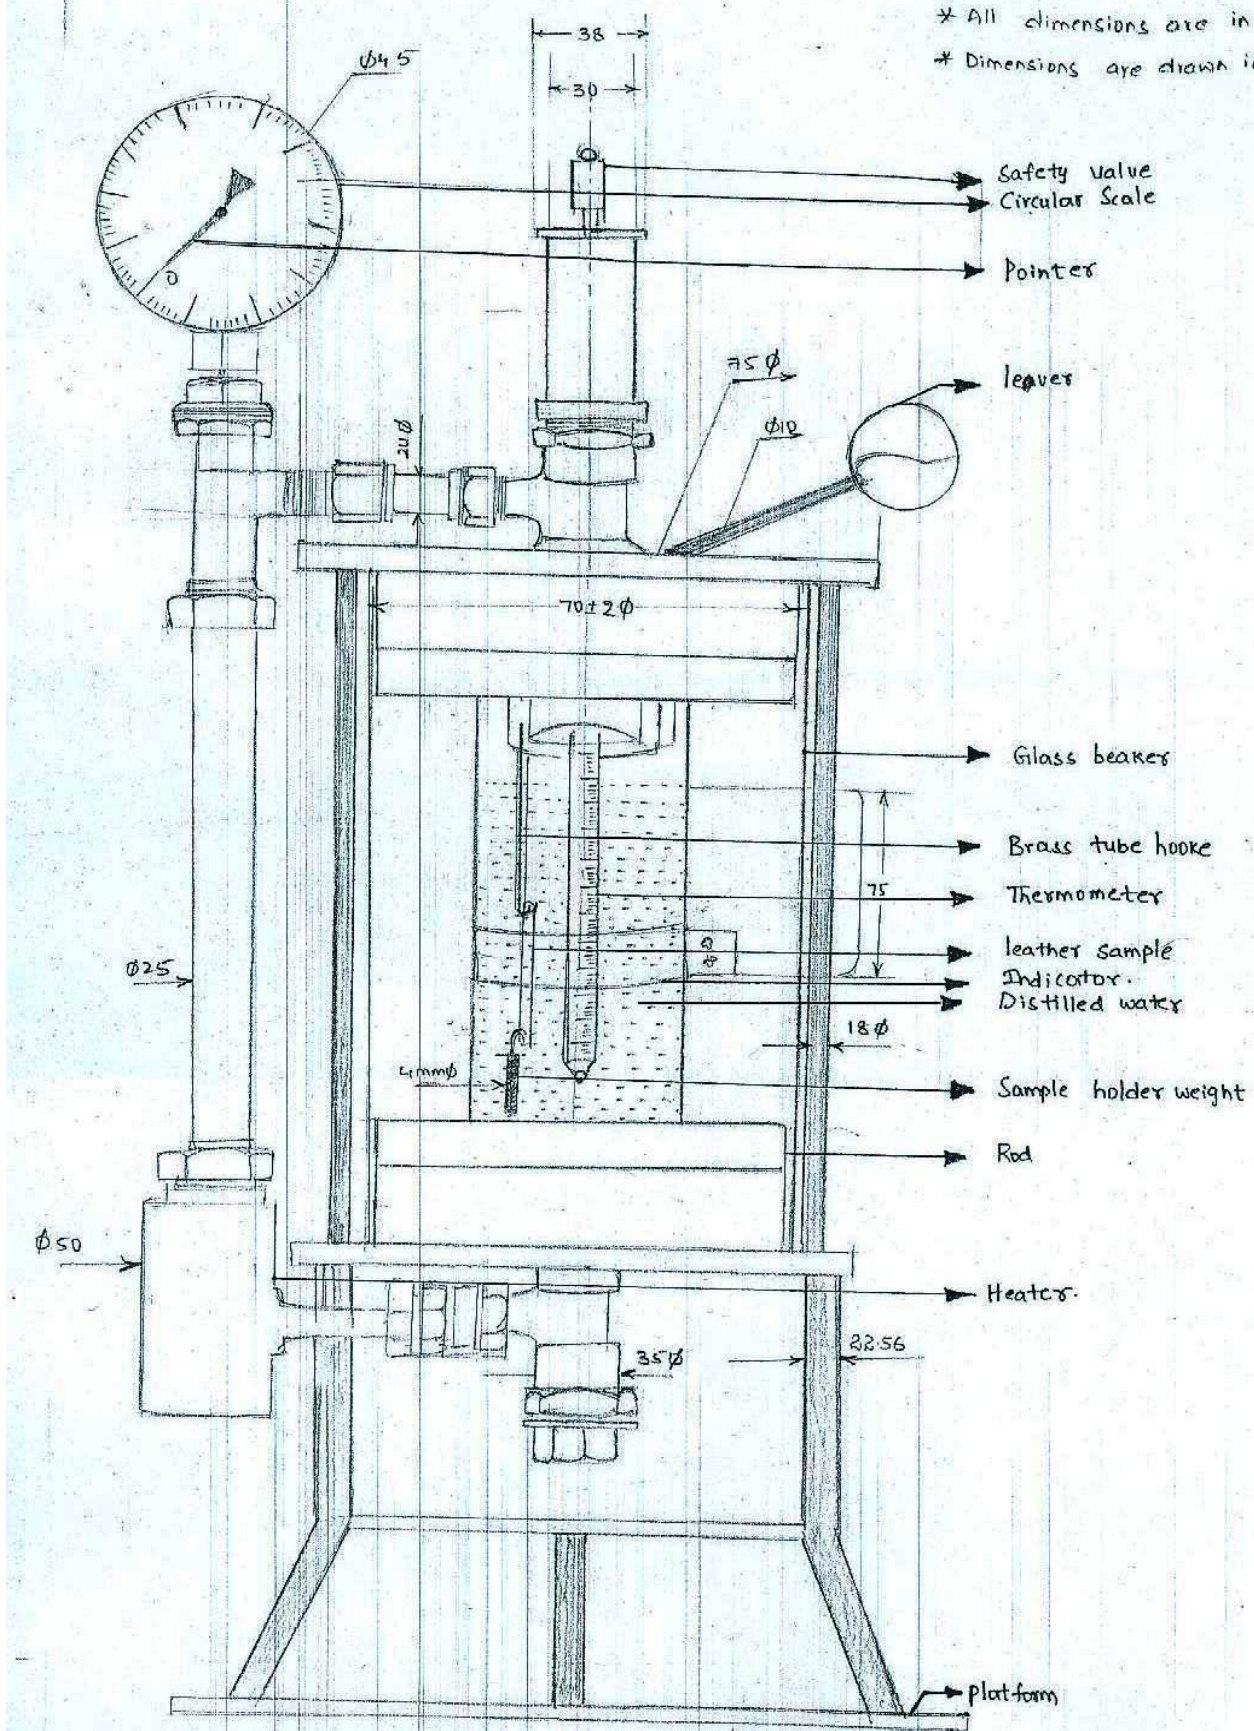

Fig. 1 Schematic Diagram of the Shrinkage Tester
- a) A pressure vessel as shown in **Fig. 1** which has capability of being filled with water and sealed, with a leather specimen suspended in water. The water is to be heated slowly at a rate of approximately 4 °C/minute to a temperature of 115 °C and equivalent pressure to be approximately 70 kpa (0.7bar) in excess of atmospheric pressure. Thermometer inside the pressure vessel to monitor the temperature of water near the specimen over the length of test specimen. The pressure vessel must have a safety valve to release excess pressure.